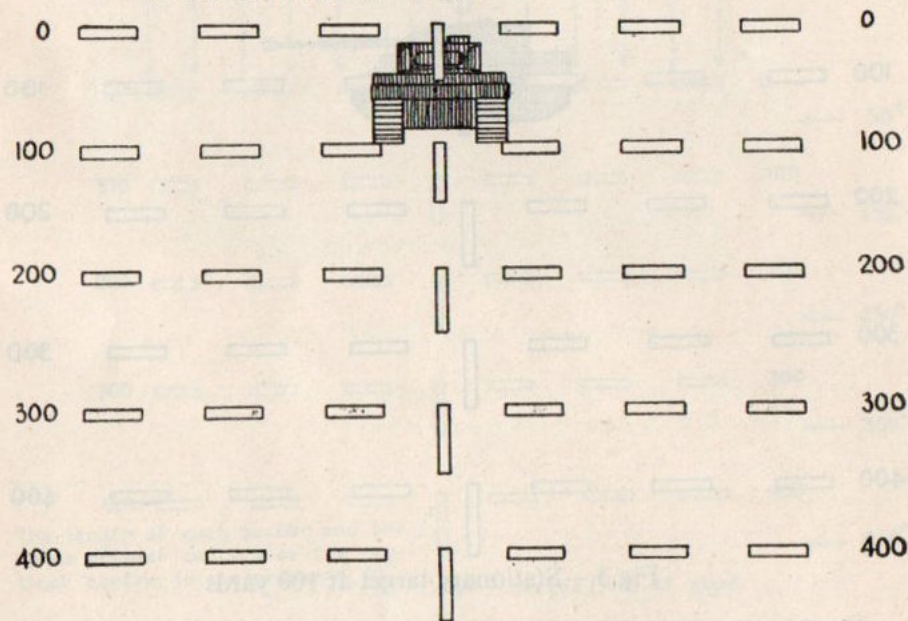

Fig 4.—Directly approaching at 100 yards
22. *Directly approaching or withdrawing targets.*—Explain, using a diagram (see Fig 4):—